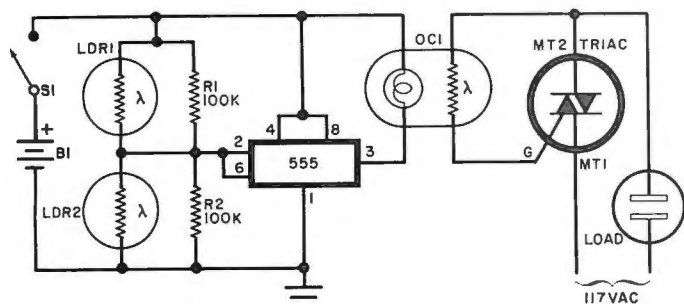

Fig. 3. An opto-coupler controls triac gate current.
**Reader's Circuit.** Add a dash of imagination and chances are you can think of a hatful of projects for the light-controlled switch shown in Fig. 3. Contributed by reader Ted Reiter (1442 Brook Dr., Titusville, FL 32780), the circuit utilizes a number of different solid-state devices—light-dependent resistors (LDR's), a 555 IC timer, an optocoupler and a power triac. When activated by external light sources such as a flashlight or the sun, the circuit can be used for remote control applications as an intruder alarm or an automatic light or appliance switch (hot coffee with the rising sun, perhaps?).